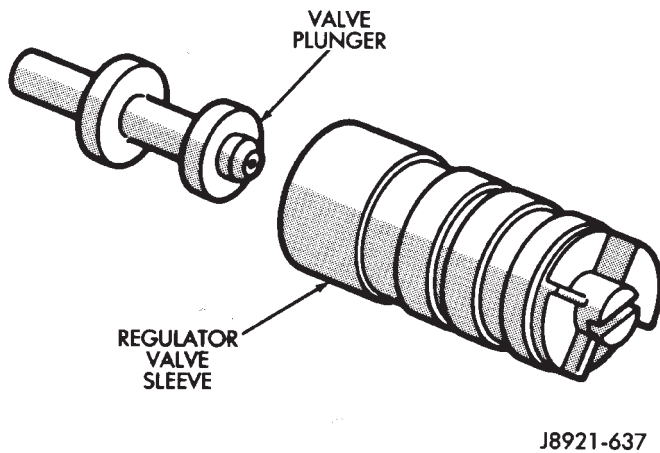

Fig. 7 Removing/Installing Regulator Valve Plunger
(8) Remove regulator valve plunger from sleeve (Fig. 7).